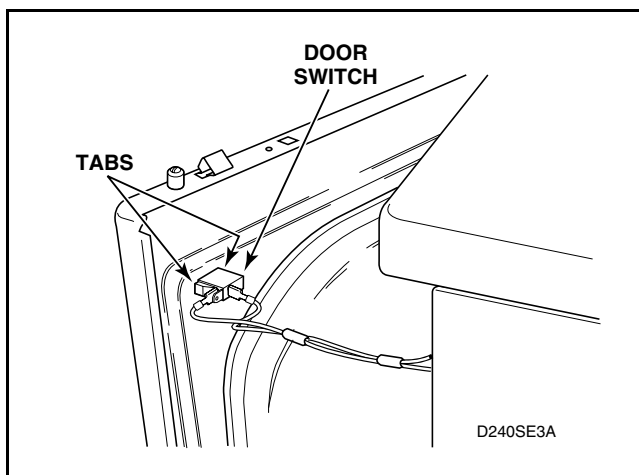

Figure 20
- d. Disconnect wires from door switch. Refer to *Figure 20*.
- e. Depress tabs on switch and push out of front panel. Refer to *Figure 20*.